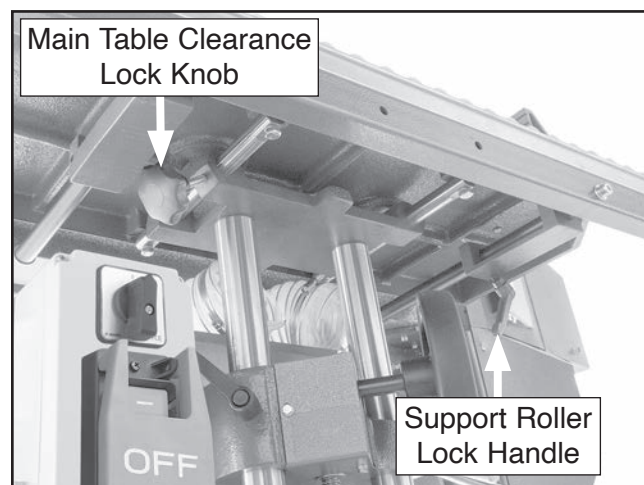

Figure 16. Main table and support roller position controls.
1. Loosen main table clearance lock knob (see **Figure 16**), then move main table all the way forward, away from platen.
2. Loosen support roller lock handle (see **Figure 16**), then move support rollers all the way forward, away from main table.